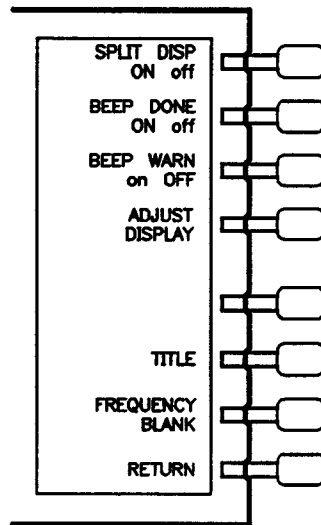

Figure 5–26. Display More Menu
**SPLIT DISP on OFF** (SPLDON, SPLDOFF) toggles between a full-screen single graticule display of one or both channels, and a split display with two half-screen graticules one above the other. Both displays are illustrated in Figure 5–25. The split display can be used in conjunction with **DUAL CHAN ON** in the display menu to show the measured data of each channel simultaneously on separate graticules. In addition, the stimulus functions of the two channels can be controlled independently using **COUPLED CH ON** in the stimulus menu. The markers can also be controlled independently for each channel using **MARKERS:UNCOUPLED** in the marker mode menu.